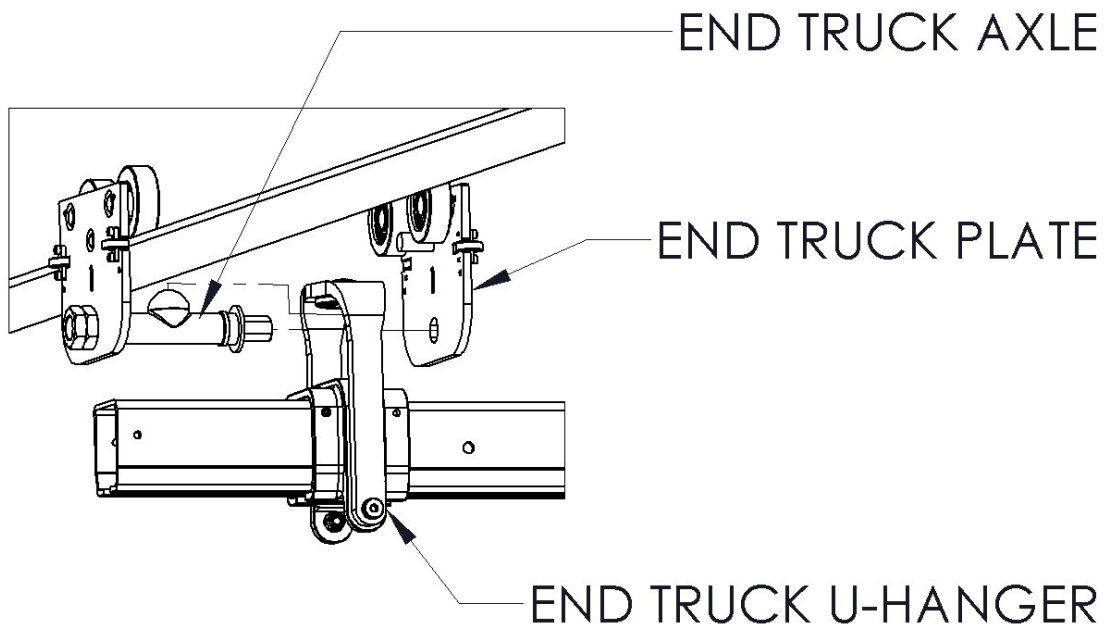

Figure 6: U-Hanger to End Truck Connection
4. Lightly grease the pivot post bearing item 3 with grease provided
5. Lift the bridge into place pass the side plate with the axle attached through the U hanger fit the other spacers or one less as required to the opposite end of the axle then install the side plate. (Figure 6)